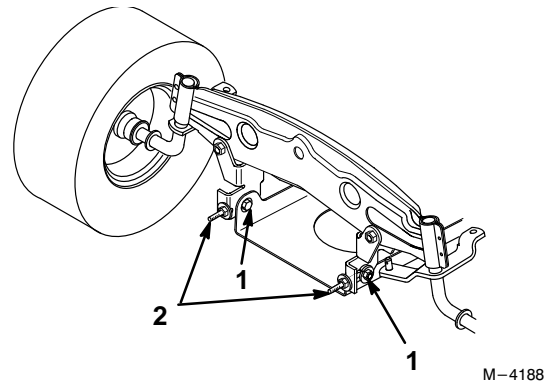

Figure 52
5. To adjust front-to-rear blade slope loosen front pivot plate mounting bolts slightly (Fig. 52).
6. Rotate lock nuts on eyebolts to change adjustment (Fig. 52). To raise the front of the mower tighten the eyebolt lock nuts. To lower the front of the mower loosen the eyebolt lock nuts.
8. When front-to-rear slope is correct, tighten the pivot plate mounting bolts (Fig. 52).